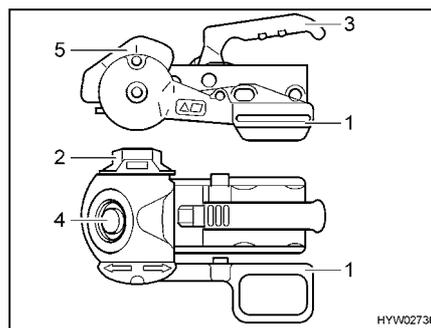

Fig. 3 AKS 1300 stabiliser
- Pull up the stabilising lever (Fig. 3,1) as far as possible.
- Turn the handwheel (Fig. 3,2) in an anticlockwise direction as far as possible in the open position.
- Pull the coupling handle (Fig. 3,3) upwards.
- Conduct a visual inspection: The green cylinder on the safety indicator (Fig. 3,4) must be visible.
- Push the stabilising lever down until the marking on the stabilising lever is aligned with that on the stabilising housing (Fig. 3,5).